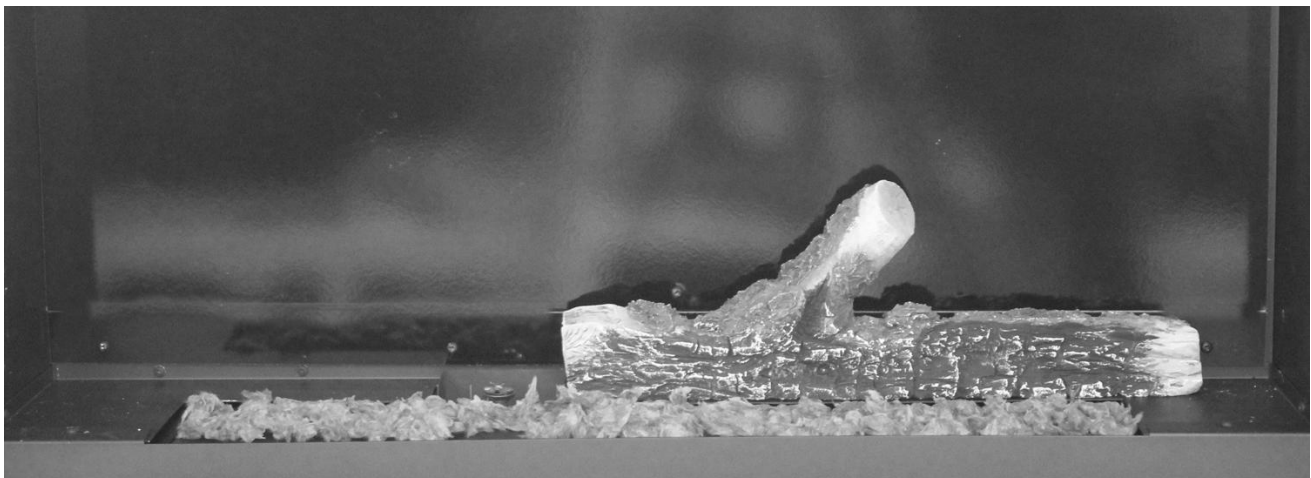

Figure 38 - Placing log #1
1. Place logs #1 and #2 on the rear log support of the firebox according to *Figures 38* and *39*.